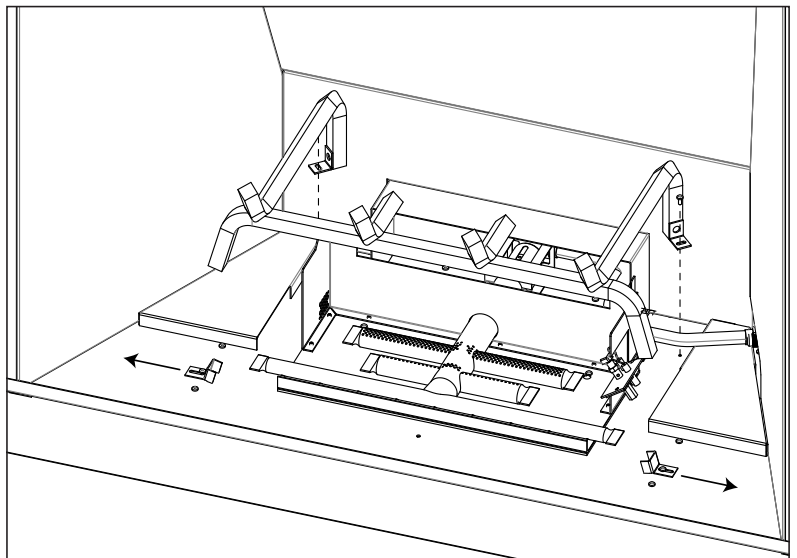

Figure 6: Log Grate Removal
3. Remove the Log Grate & wind deflector glass by removing the two (2) T-20 screws at the rear of the grate and loosening the two screws holding the log grate clamps in place near the front of the grate (see Figure 6).